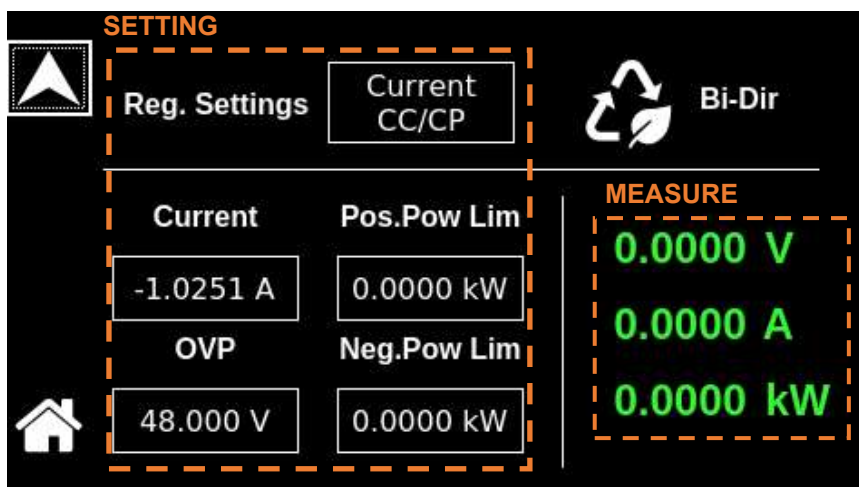

**Figure 8-13. Dashboard Screen in CP/CC Mode**
a) **Current** – CC/CP Regulation setting is shown in Figure 8-13,